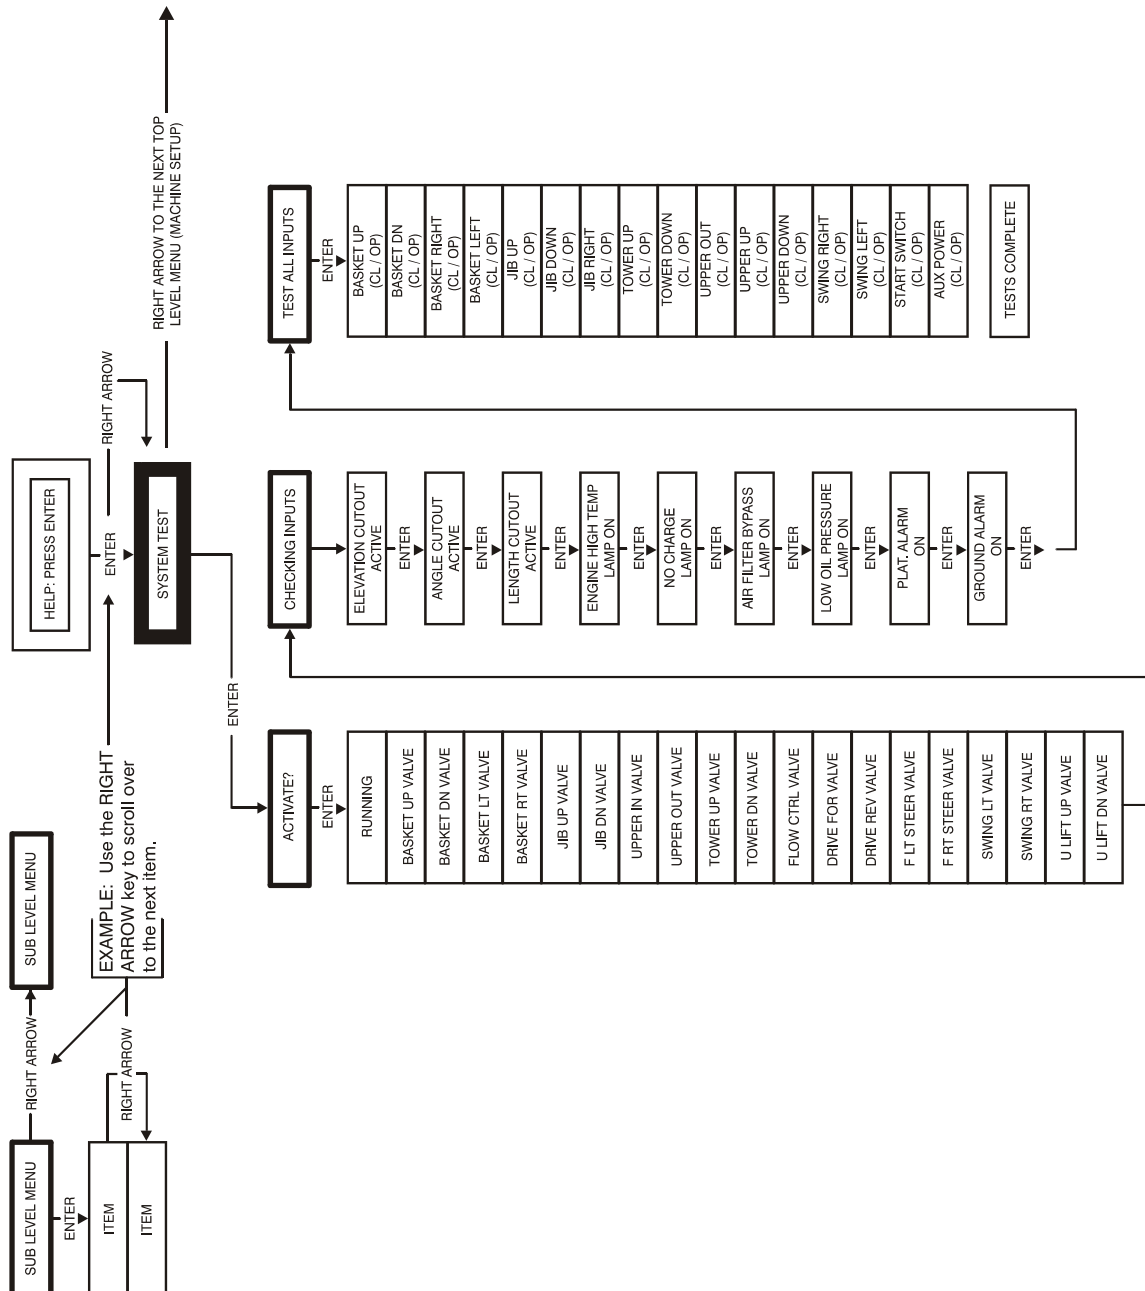

Figure 6-6. System Test Flow Chart - Ground Station Tests
6. Follow the flow path in Figure 6-6., System Test Flow Chart - Ground Station Tests and go through the component tests. Hit the ESC key during any part of the test to return to the main menu without completing all tests or wait until all tests are complete. During the TEST ALL INPUTS sequence, the analyzer allows control switches to be operated and shows if they are closed (CL) or open (OP).